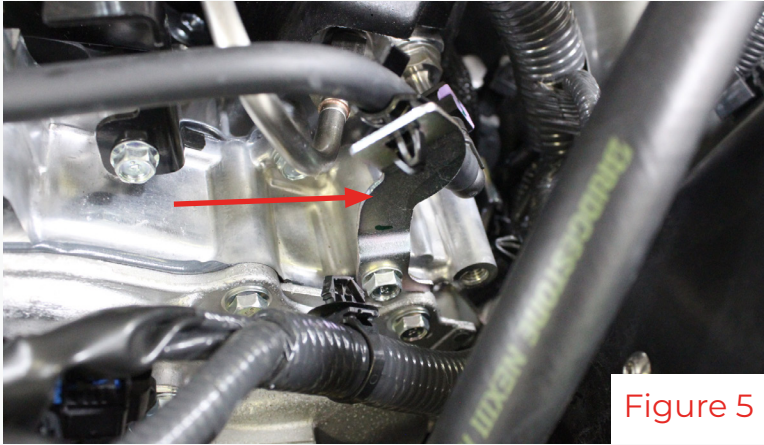

Figure 5
4. Remove the fuel line bracket(fig 5 & 6).